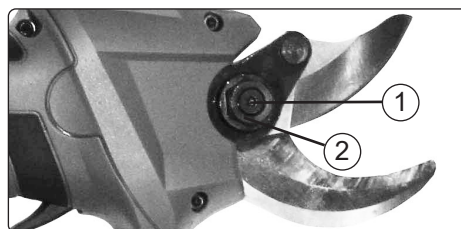

fig.5
- 6.3.5. Loosen the hex screw (fig.5.1) near the shear blades with the hex wrench by turning it anticlockwise (fig.5).